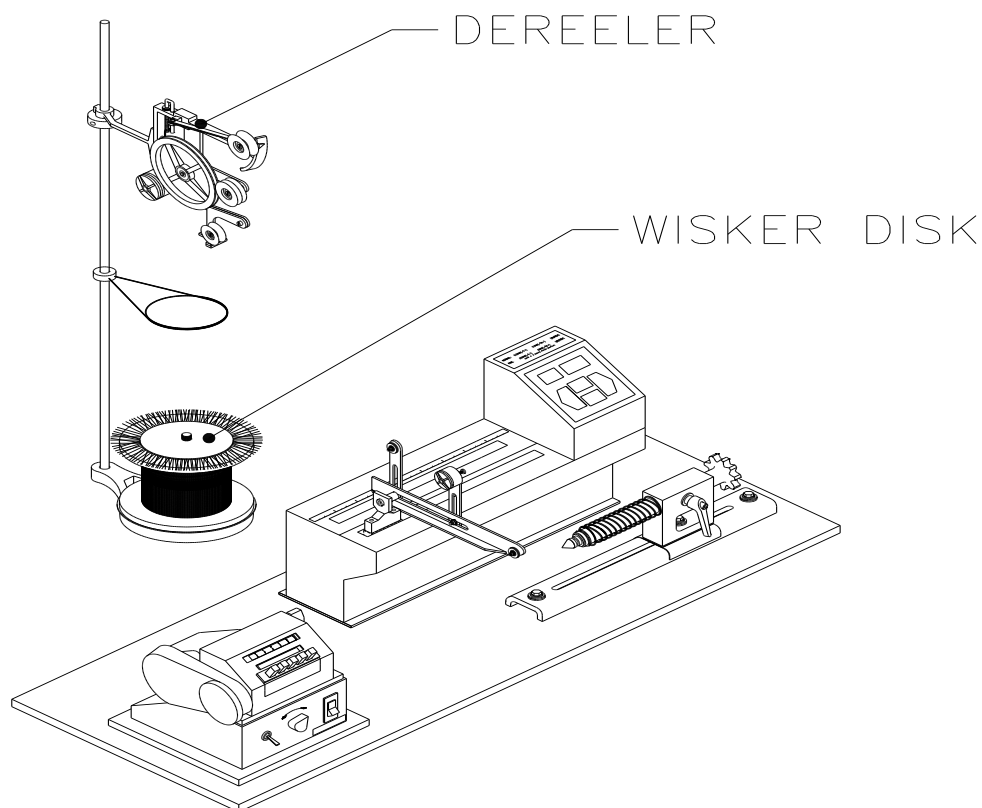
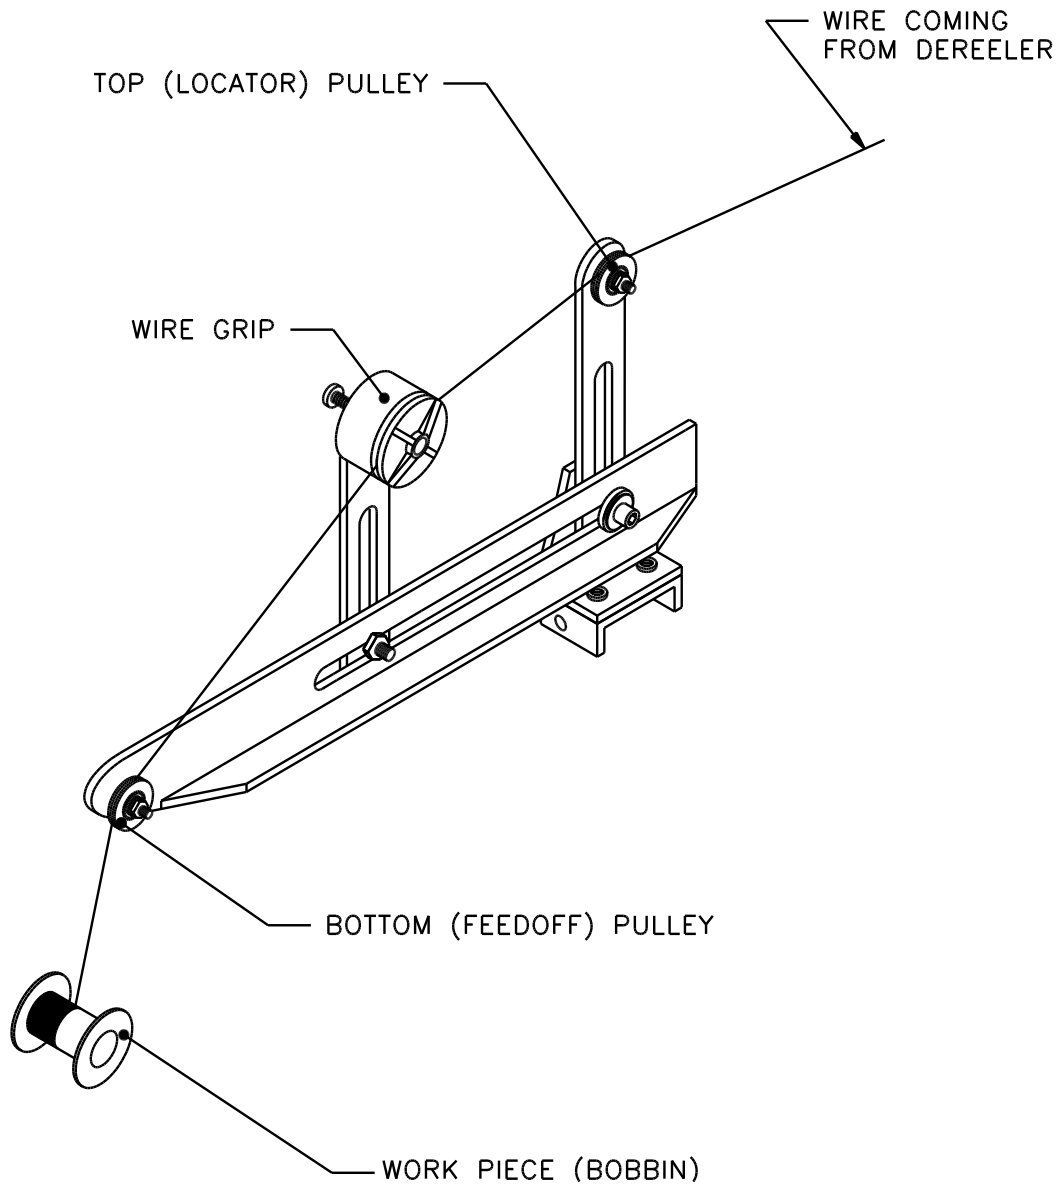

Figure 1
Figure 2
- Step 3: Set up the Dereeler unit directly behind the Traverse (see Figure 1) below and feed the wire through the 1228 Wire Guide Assembly (see Figure 2 on page 6). (Set up and threading instructions are provided with the dereeler.)